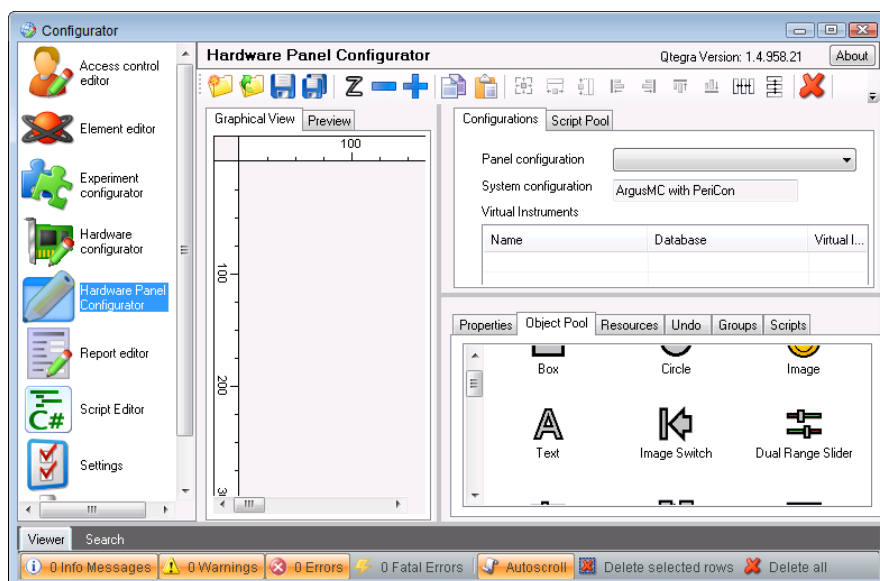

Figure 3-16. Qtegra Hardware Panel Configurator
2. Click **Hardware Panel Configurator**, see Figure 3-16.
7. Add text, images or lines by dragging and dropping those elements from the Object Pool (see Figure 3-16) on the right to the panel.